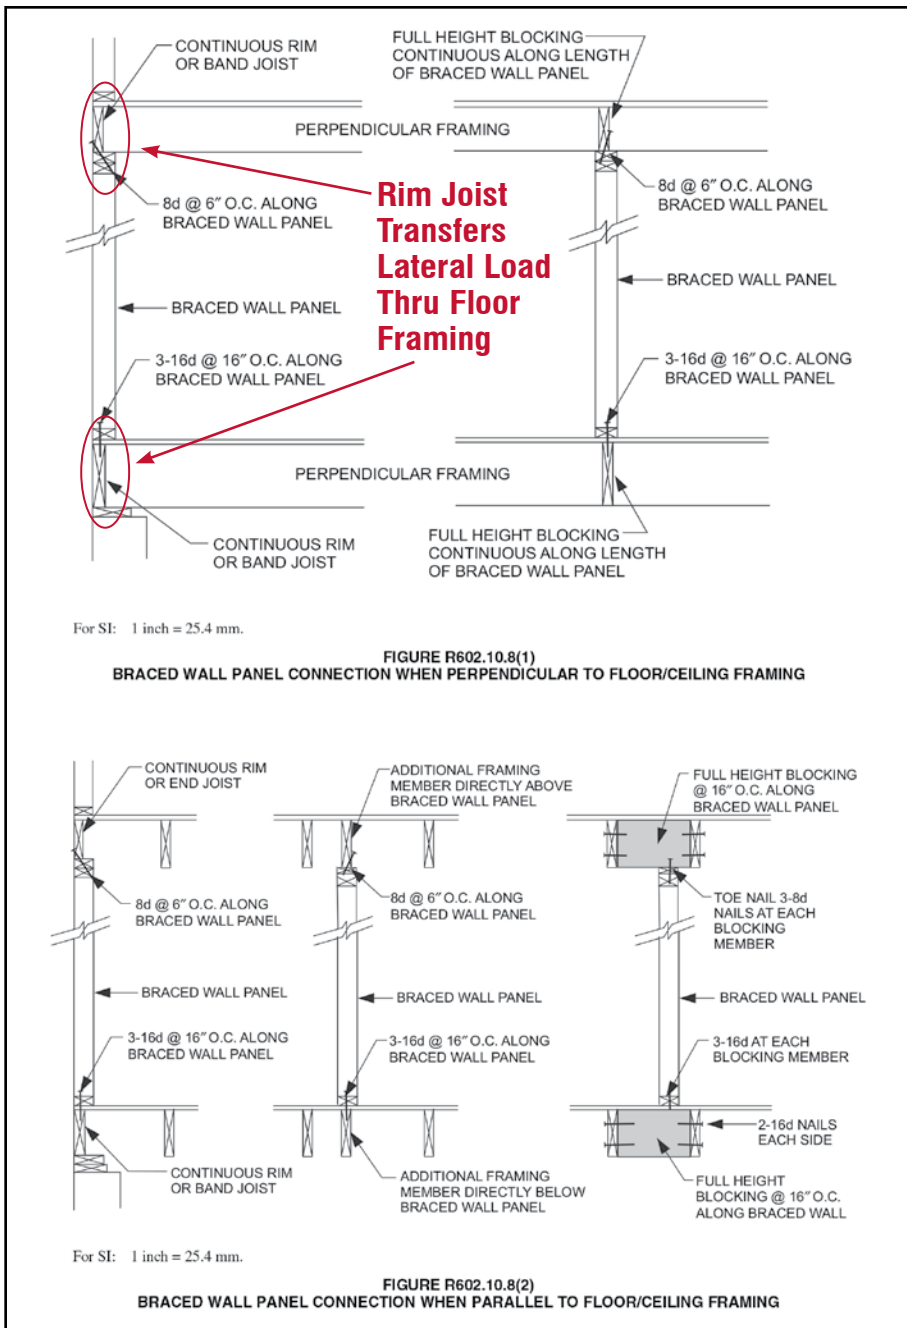

Figure 2. IRC Braced Wall Panel Connections (with connection note added in red).
At exterior walls, these in-plane lateral loads are usually transferred from the braced wall panel through the floor to a braced wall panel or foundation below by the rim joist, end joist, band board, blocking or wall sheathing provided at the end of the floor framing system, as shown in Figure 2.
However, when shear walls are located in the interior of the structure, additional blocking and/or framing members may be needed to connect the braced wall panels to the roof or floor system. The *International Residential Code (IRC)* provides details for these connections in Figures R602.10.8(1) and R602.10.8(2), as shown in Figure 2.